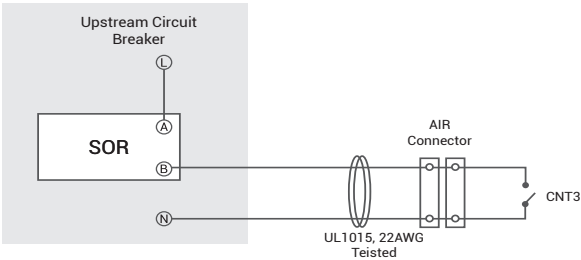

Figure 25. Control Circuit
1) Connect UL1015 22AWG 105°C 600V wires from the sensor board to the upstream circuit breaker. See Figure 25.